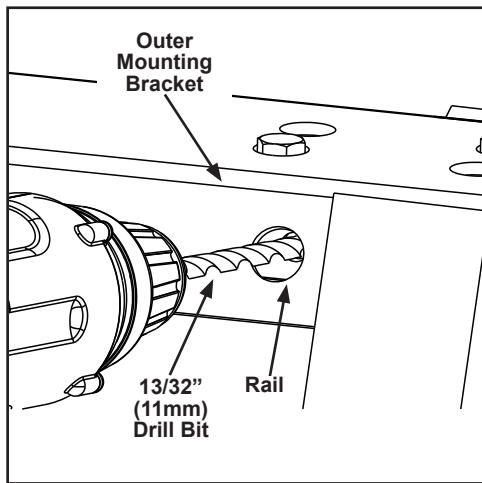
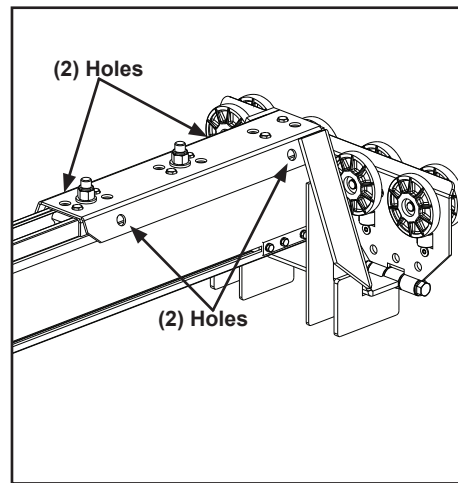

Figure 3-100
Figure 3-101
- Step 9. Using same plane end truck body as a guide drill four (4) 13/32 in (11 mm) holes in top of rail through bracket channel at two (2) outer mounting brackets. See Figure 3-100 and Figure 3-101. Do not drill in-line.